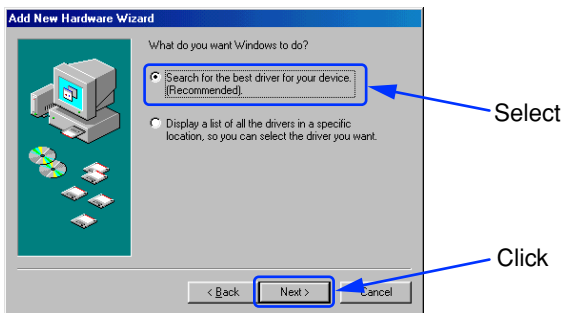

Fig. 1
- ① Turn on the main power of the personal computer and start Windows.
- ② Insert the supplied CD-ROM into the CD-ROM drive of the personal computer.
- ③ Turn on the main power of the SRP-X700P. Connect the connector on the front or rear of the SRP-X700P to the USB connector of the personal computer using a USB cable.
- ④ The USB device of the SRP-X700P is recognized and the dialog box [This wizard searches for new drivers for:] appears. Click [Next >].
- ⑤ Select [Search for the best driver for your device. (Recommended).] and click [Next >]. (Fig. 1)